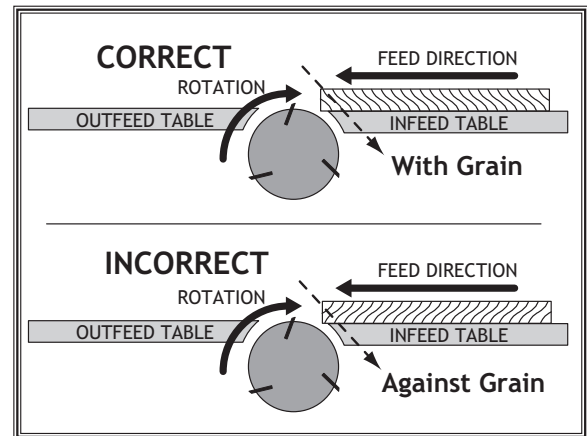

Figure 29. Correct setting for grain alignment.
- **Jointing and surface planing with the grain produces a better finish and is safer for the operator.** Cutting with the grain is described as feeding the stock on the jointer so the grain points down and toward you as viewed on the edge of the stock (Figure 29).